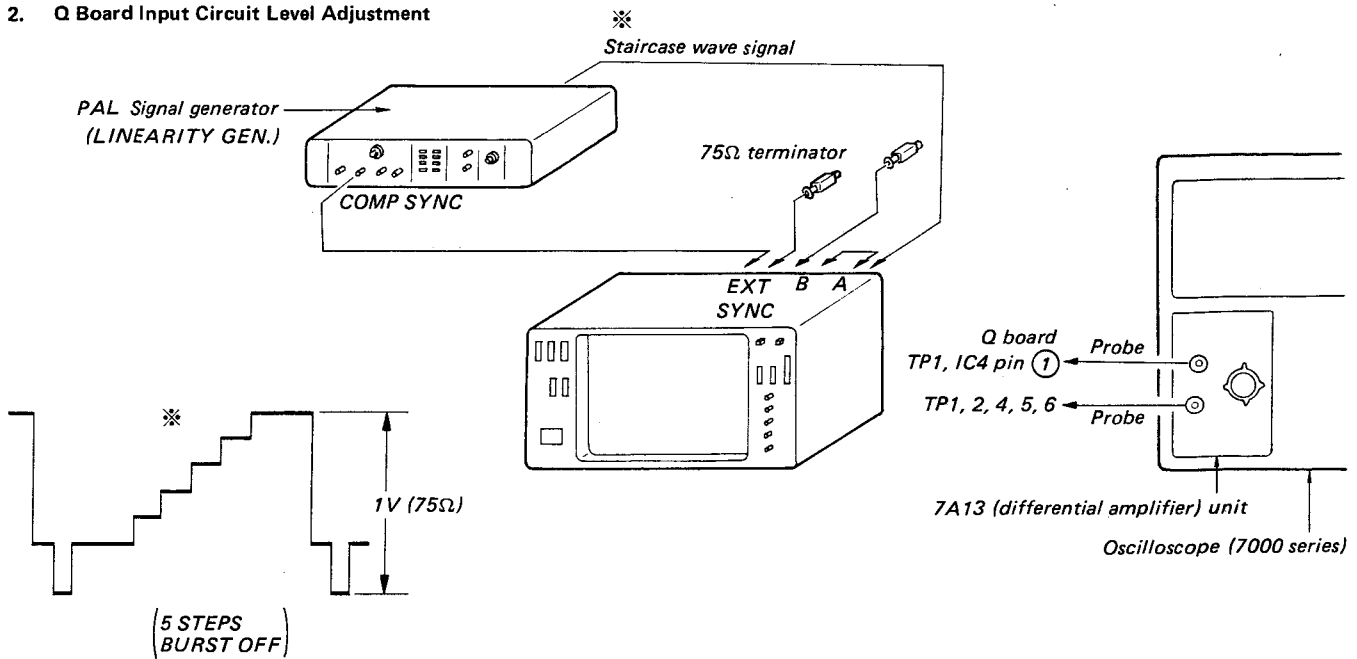

Fig. 5-30.
1. Complete the connections as shown in Fig. 5-30. (Connect the staircase wave signal to the VIDEO A terminal, the VIDEO A terminal to the VIDEO B terminal, and the 75Ω terminator to the terminal B.) The length of cable between the VIDEO A terminal and VIDEO B terminal should be less than 1m.